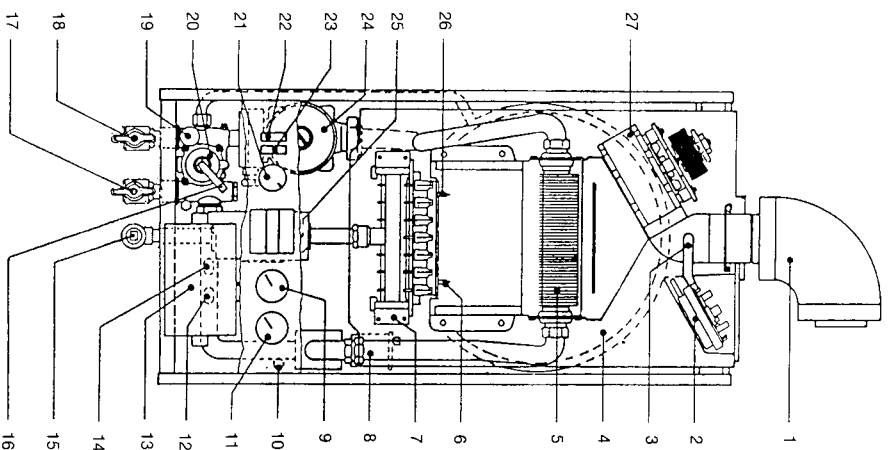
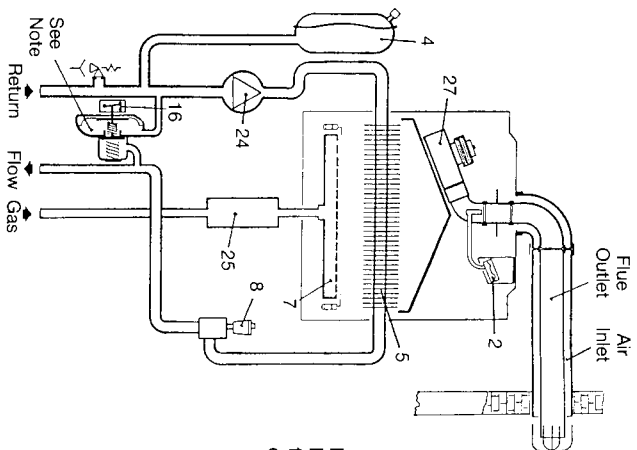

Fig 1
Fig. 2
- 2.1 Fig. 1 illustrates the general layout of components. Fig. 2 illustrates the operating principles described below.